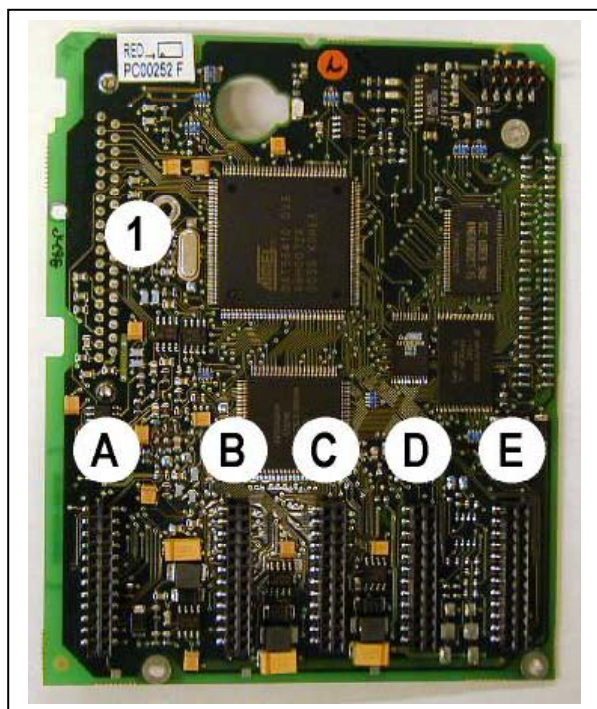

Figure 6-23. NX control board
The control unit of the frequency converter consists roughly of the control board and additional boards (see Figure 6-23 and Figure 6-24) connected to the five *slot connectors* (A to E) of the control board. The control board is connected to the power unit through a D-connector (1) or fibre optic cables (FR9).